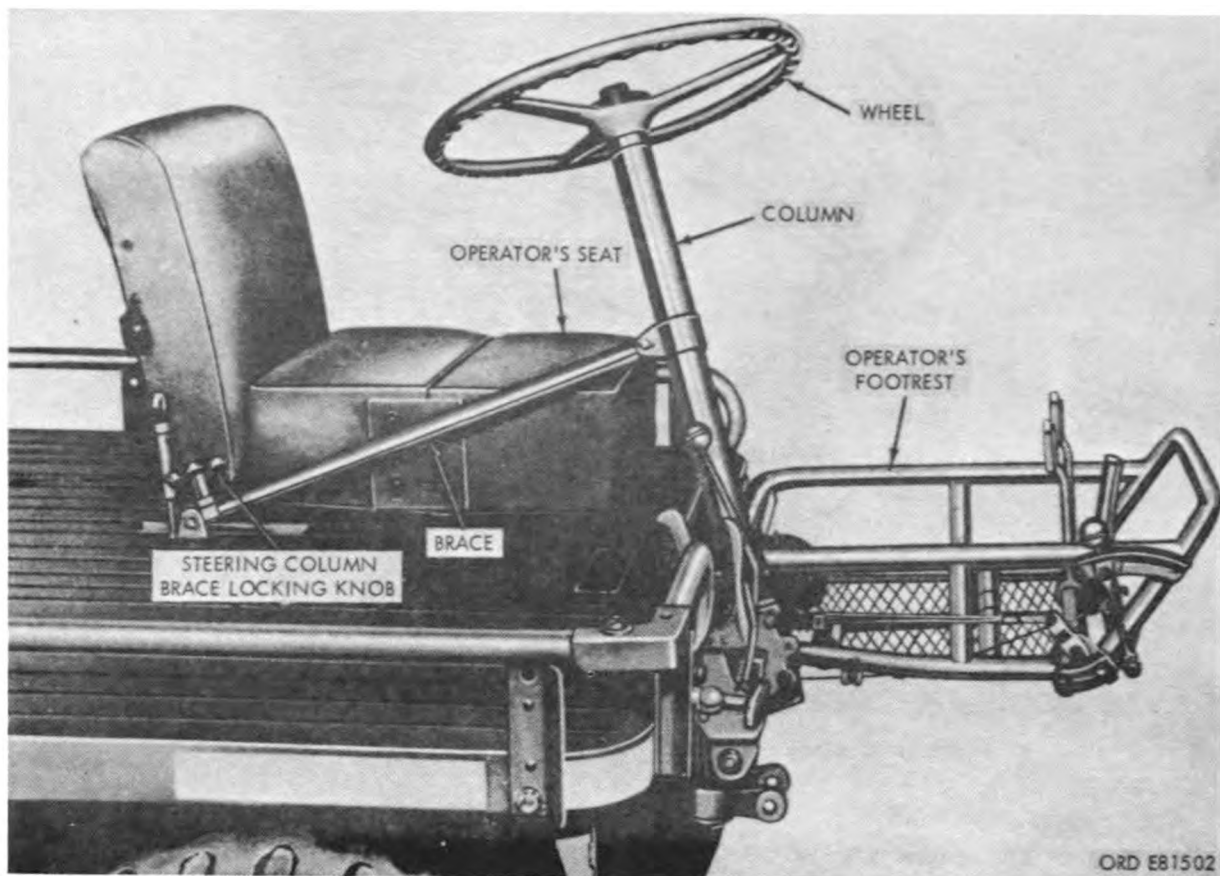

Figure 2-3. Steering wheel and column in rear position.
b. Steering Wheel and Column. The steering wheel is mounted at the upper end of the steering column, at the front end of the vehicle. To provide for vehicle steering while seated in the vehicle or from a standing or crouching position on the ground, the column may be secured in any one of three positions. Figure 2-3 shows steering wheel and column in the rear position used in normal operation; in intermediate position for operating from standing position on the ground; and in forward position for operating from a crouching position.